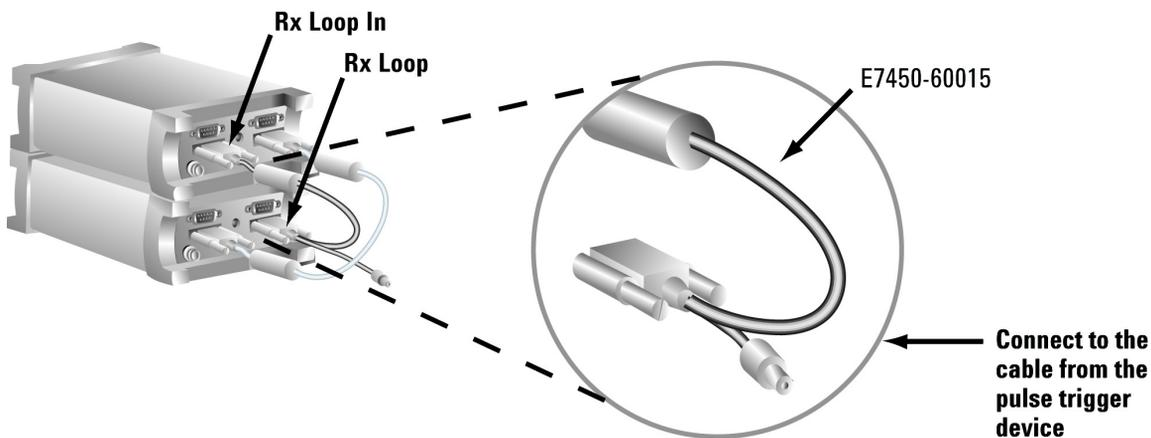

Figure 17 Connecting the pulse trigger cable
Follow the manufacturer's instructions for installing the pulse trigger device. Connections to the receiver are shown in Figure 17.
- If you have two receivers, connect the pulse trigger cable (E7450-60015) to the RX LOOP IN and RX LOOP OUT ports as shown in Figure 17.